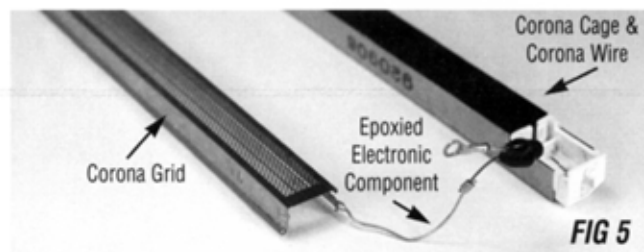

FIG 5
3. The corona assembly is comprised of three primary components which require cleaning with each cycle. (Figure 5)